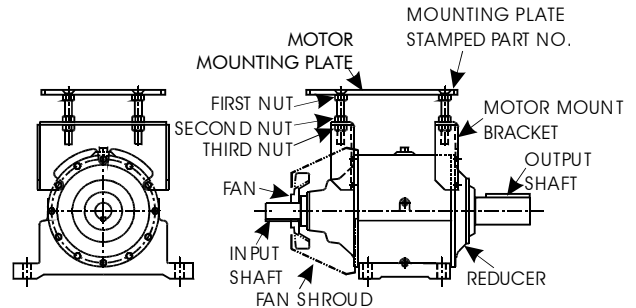
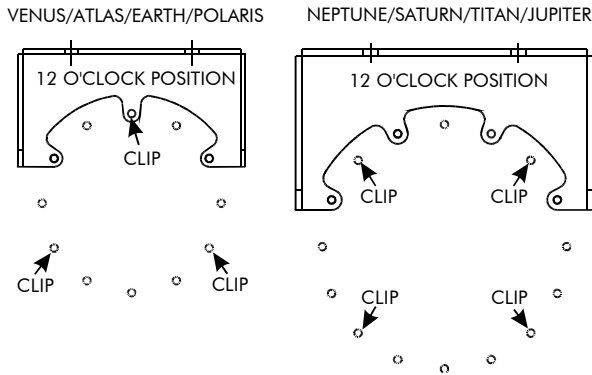

Figure 2 Top Motor Mount Assembly to Reducer
Figure 3 Fan Shroud Clip Locations
3. Position and attach the mounting brackets onto the reducer, reference Figure 2. It is necessary to use bolts that are 1/2" (13 mm) longer than the original bolts removed from the reducer. This is to account for the thickness of the mounting bracket. Reference Table 1 (Page 3) for recommended bolt torques.
7. Attach the third nut loosely onto each cap screw to hold the mounting plate/cap screw assembly onto mounting brackets. Reference Figure 2.
- Position and attach the mounting brackets to the reducer, reference Figure 2 (Page 1). It is necessary to use bolts that are 1/2" (13 mm) longer than the original bolts removed from the reducer. This is to account for the thickness of the mounting bracket. Reference Table 1 (Page 3) for required bolt torque values. At the same time position and attach the shroud clips over the mounting bracket. Reference Figure 3.
Note: If the shroud clips are mounted over the mounting bracket (as described in Figure 3) then the fan shroud mounting holes need to be relocated for those positions.